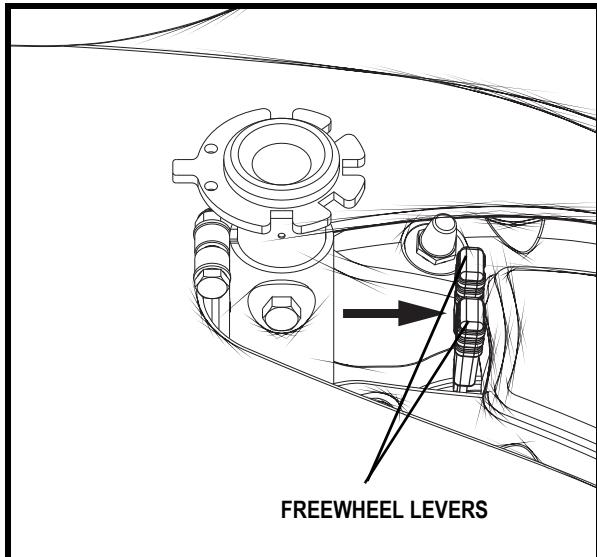

Figure 8. Drive Mode (Drive Engaged)
2. Push both levers forward away from the seat post to engage the drive motors (drive mode). See figure 8.
2. Ensure the power chair is in drive mode. See **figure 8**.